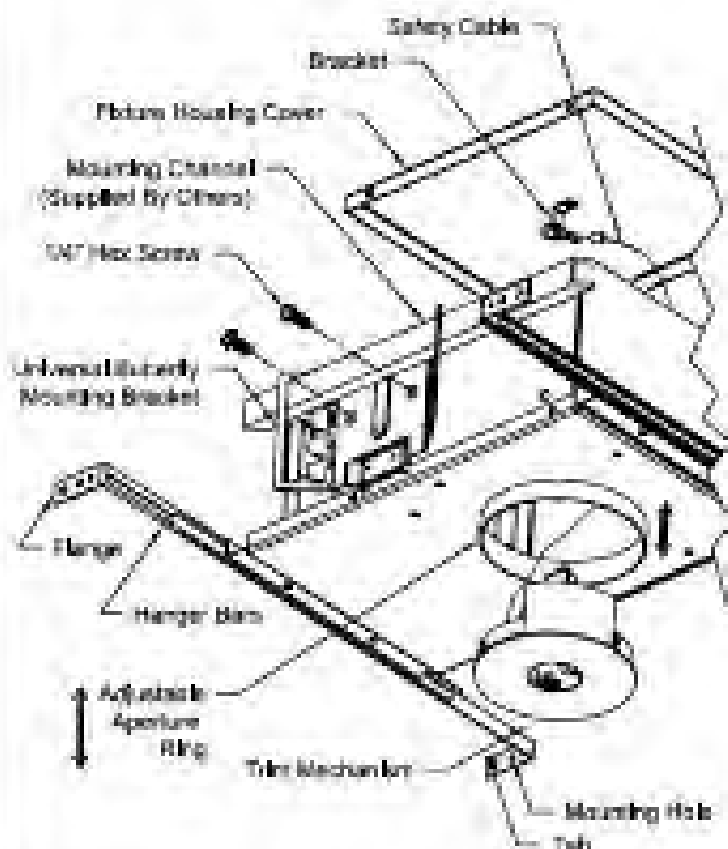
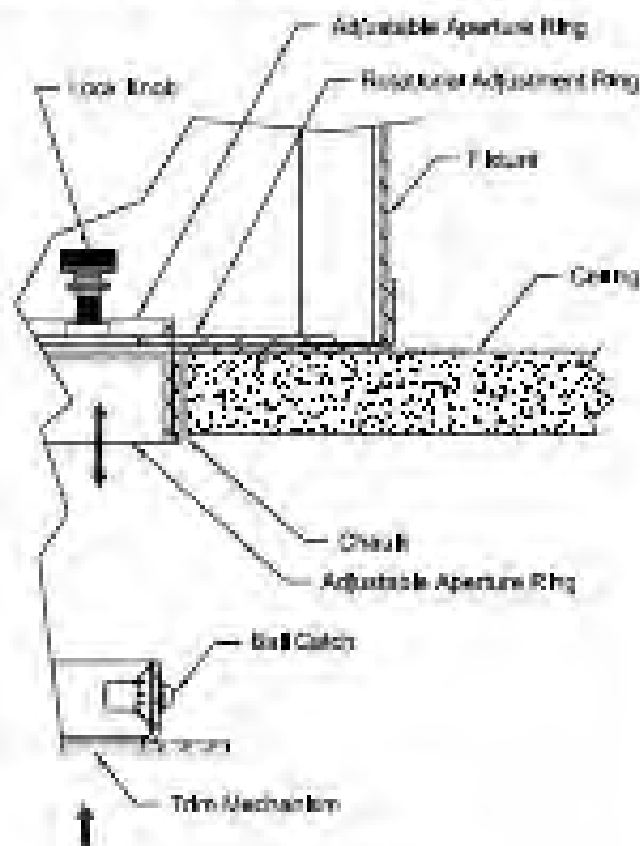

Figure 1
Figure 2
1. Fixture comes equipped with Universal Butterfly Mounting and can take common 1 inch or 1-1/2 inch Rack Rail or Galvanized Mounting Channels (Supplied By Others). See Fig. 1.
5. Adjust elevation of Fixture so Adjustable Aperture Ring Edge will be flush with surface of finished Ceiling by loosening two (2) 1/4 inch HEX Screws on both Universal Mounting Brackets. See Fig. 1.
6. Tighten two (2) 1/4 inch Hex Screws on both Universal Butterfly Mounting Brackets to secure Fixture. See Fig. 1.
7. Install Ceiling drywall up to Adjustable Aperture Ring on Fixture. See Fig. 2.
8. Position Adjustable Aperture Ring to be in close with Ceiling by sliding up or down. See Fig. 2.
3. Hammer Flanges to seat Hanger Bar Tabs in rollers. See Fig. 1.
4. Secure Hanger Bars using one (1) nail in Mounting Hole in each Flange.
5. Install Ceiling drywall up to Adjustable Aperture Ring on Fixture. See Fig. 2.
6. Position Adjustable Aperture Ring to be in close with Ceiling by sliding up or down. See Fig. 1 & Fig. 2.
1. Connect Safety Cable attached to Safety Bracket on Trim Mechanism (See Fig. 1) to Fixture by Inserting Safety Cable through opening in Fixture and Inserting Snap Hook on end of Safety Cable into hole in Bracket attached to Inside of Fixture Housing Cover (See Fig. 1).
2. Install Trim Mechanism into Fixture by pressing firmly to engage Ball Catches. See Fig. 2.